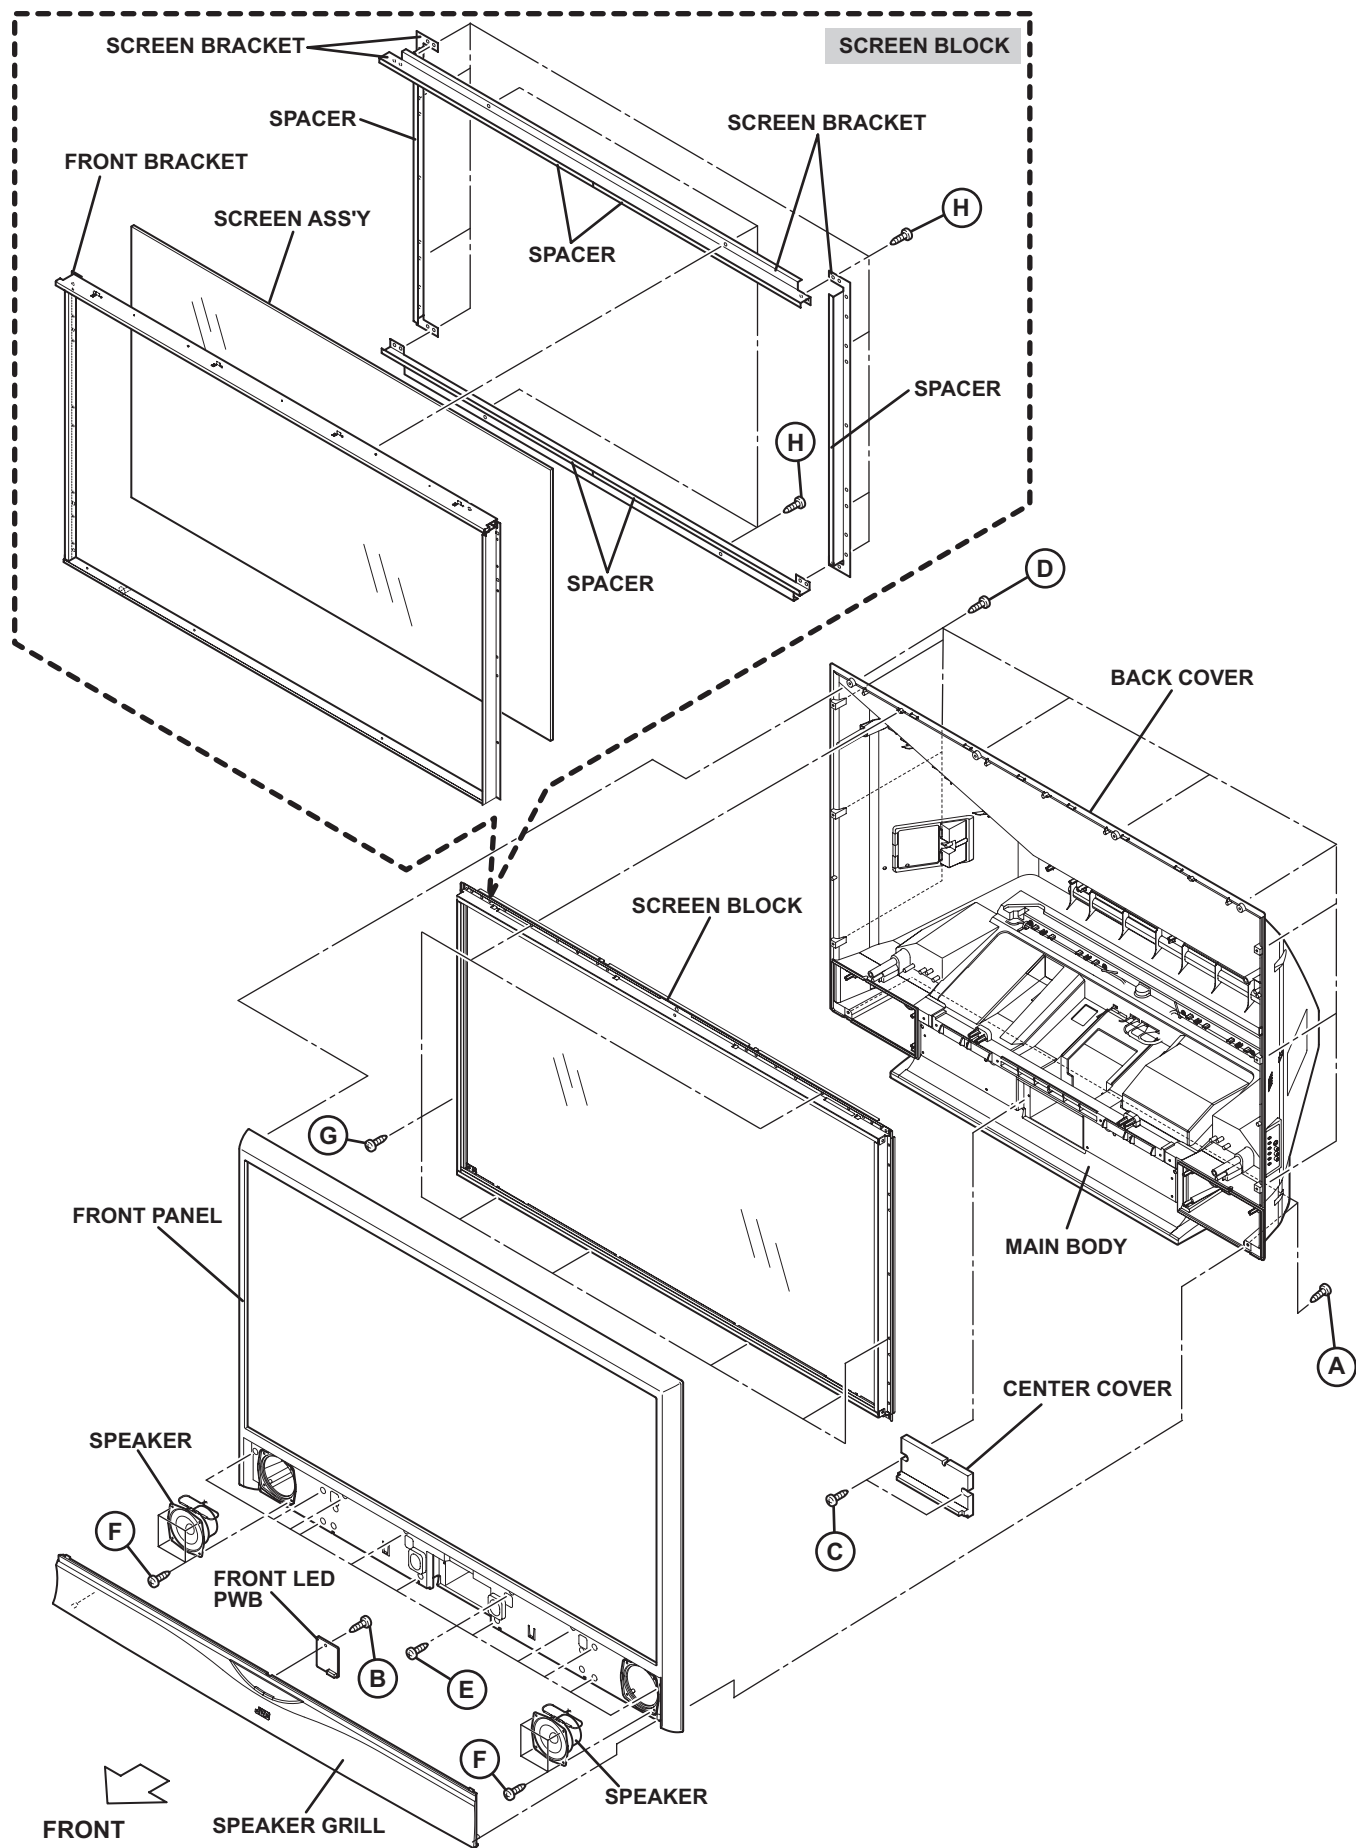

Fig.1
3.1.1.1 REMOVING THE SPEAKER GRILL (Fig.1)
- (1) Remove the 2 screws [A].
- (2) Remove the SPEAKER GRILL by pressing it downward.
3.1.1.2 REMOVING THE FRONT LED PWB (Fig.1)
- (1) Remove the 1 screw [B].
- (2) Remove the FRONT LED PWB.
3.1.1.3 REMOVING THE CENTER COVER (Fig.1)
- (1) Remove the 2 screws [C].
- (2) Remove the CENTER COVER.
3.1.1.4 REMOVING THE FRONT PANEL (Fig.1)
3.1.1.5 REMOVING THE SPEAKER (Fig.1)
3.1.1.6 REMOVING THE SCREEN BLOCK(Fig.1)
3.1.1.7 REMOVING THE SCREEN ASS'Y (Fig.1)